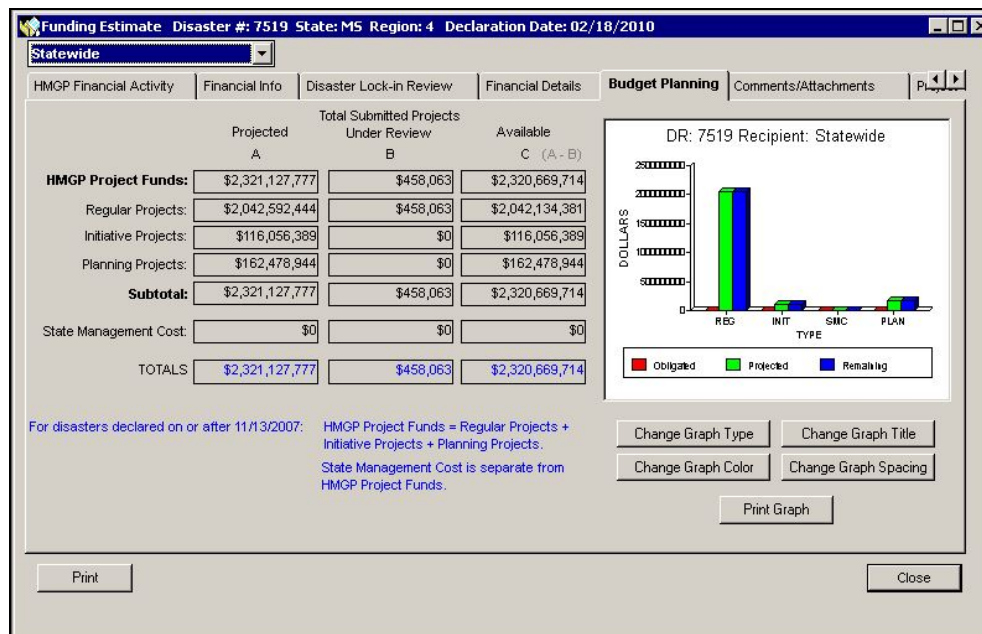

Figure 5-19: Mitigation > Funding > Estimate > Budget Planning Tab
1. Click the **Budget Planning** tab (Figure 5-19).